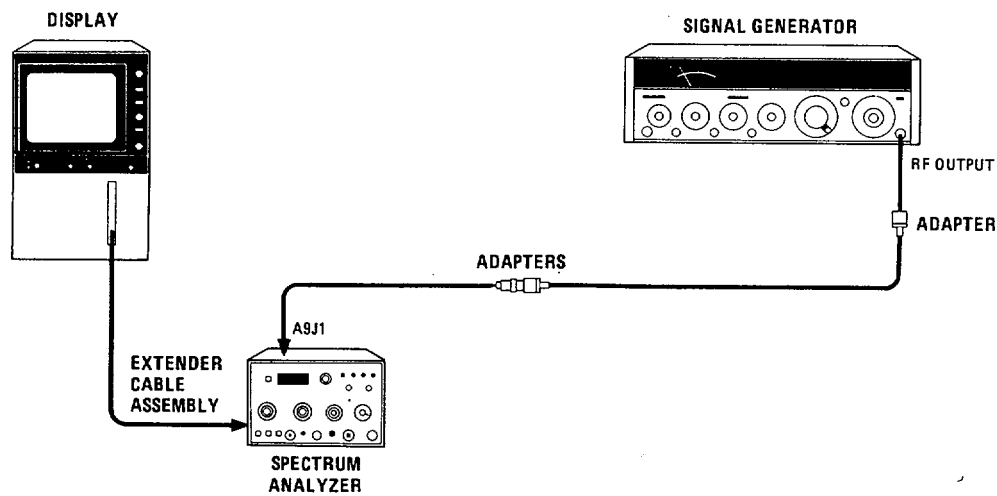

Figure 4-10. Resolution Bandwidth Selectivity Test Setup, 1 kHz to 30 kHz
2. Connect equipment as shown in Figure 4-10. Remove W7P1 from A10J2. Connect signal generator through adapters to W7P1.